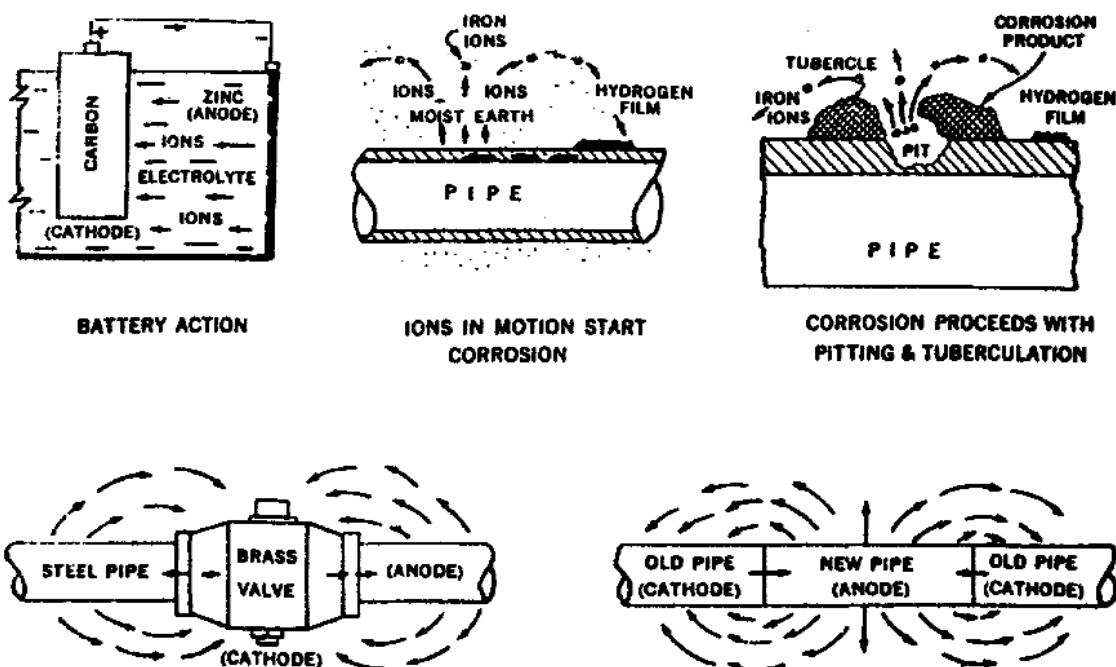

Figure 73. Causes and effects of corrosion.
9. *Electrochemical corrosion.* Electrochemical corrosion occurs when a difference in electrical potential exists between two parts of a metal in contact with an electrolyte (water). The difference in potential will cause electric current to flow. The difference in potential may be set up by two dissimilar metals, by a difference in temperature or amount of oxygen, or by the concentration of the electrolyte at the two points of contact with the metal. The *anode* is the point at which the current flow is from the metal to the electrolyte; it is here that corrosion occurs. The *cathode*, which is usually not attached, is the point of current flow from the electrolyte to the metal. This action is shown in figure 73.